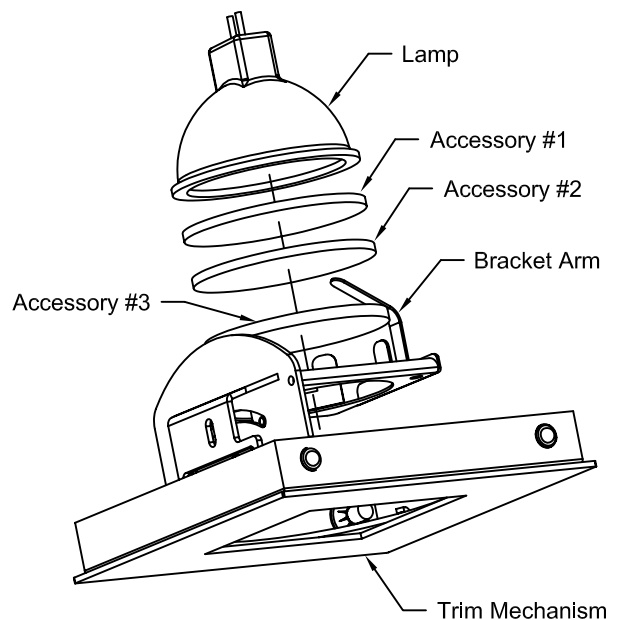

Figure 4
2. Slide out Lamp and/or Accesories from under Bracket Arm to remove. See Fig. 4.